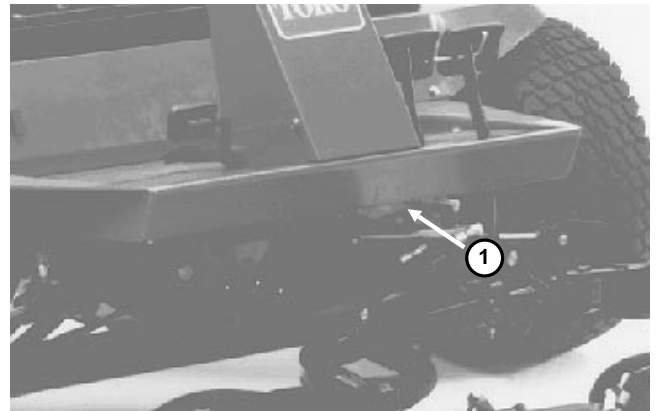

Figure 7
2. Attach a suitable chain, strap or cable to the center of the front frame member (Fig. 7).